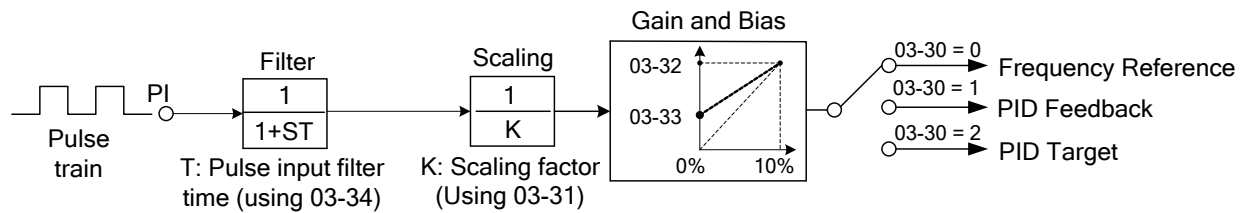

Figure 4.4.27 Pulse input adjustment
* Refer to figure 4.4.27 for the pulse input specification.